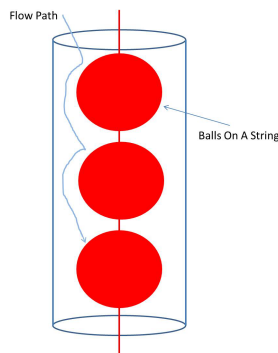

Figure 3: Option 2
- Option 2: Another idea involves attaching balls to a string that would hang through the pipe's center in a similar fashion to the horizontal baffles previously described. Depending on the size of these balls, horizontal baffles could be installed attached to the pipe wall alternating in between the balls (see Figure 3).